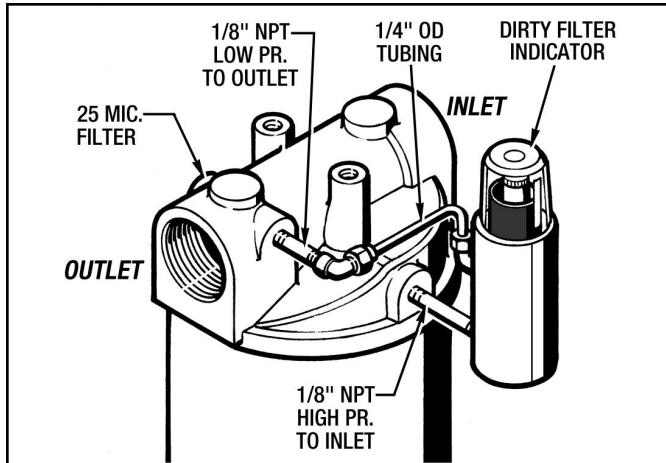

Figure 4 - Installing Dirty Filter Indicator
2. A Pressure Differential (Dirty Filter) Indicator (#201) is installed on the filter as shown in *Figure 4*.